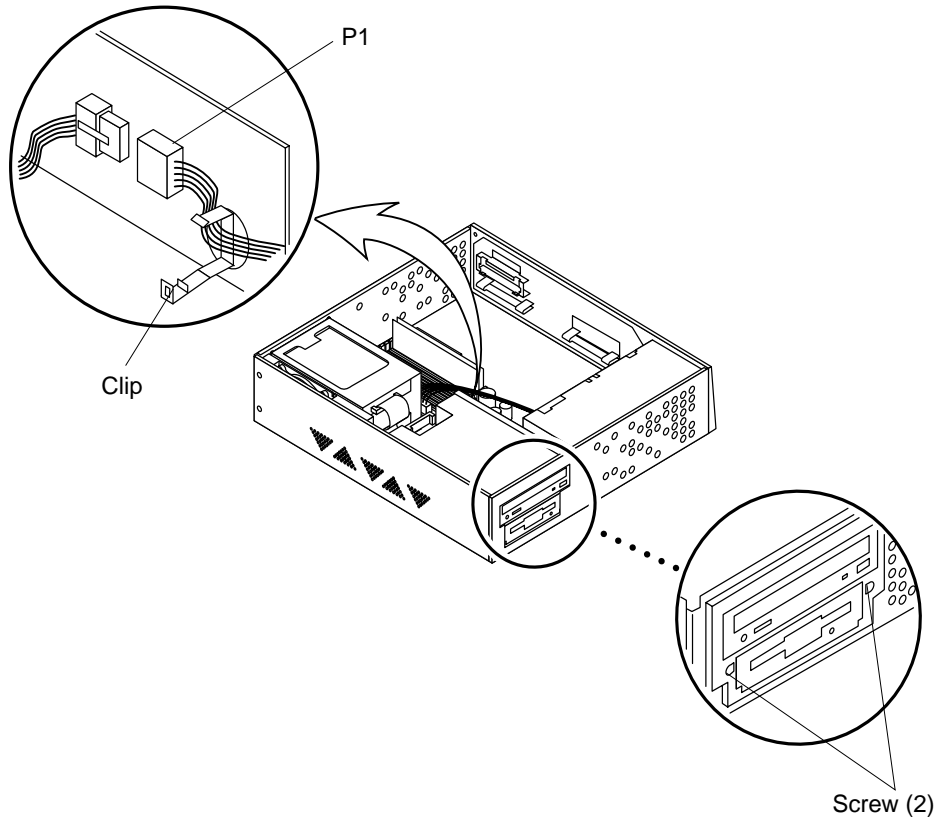

FIGURE 8-17 Removing the Drive Bracket
4. Disconnect the DC harness as follows (Figure 8-17):